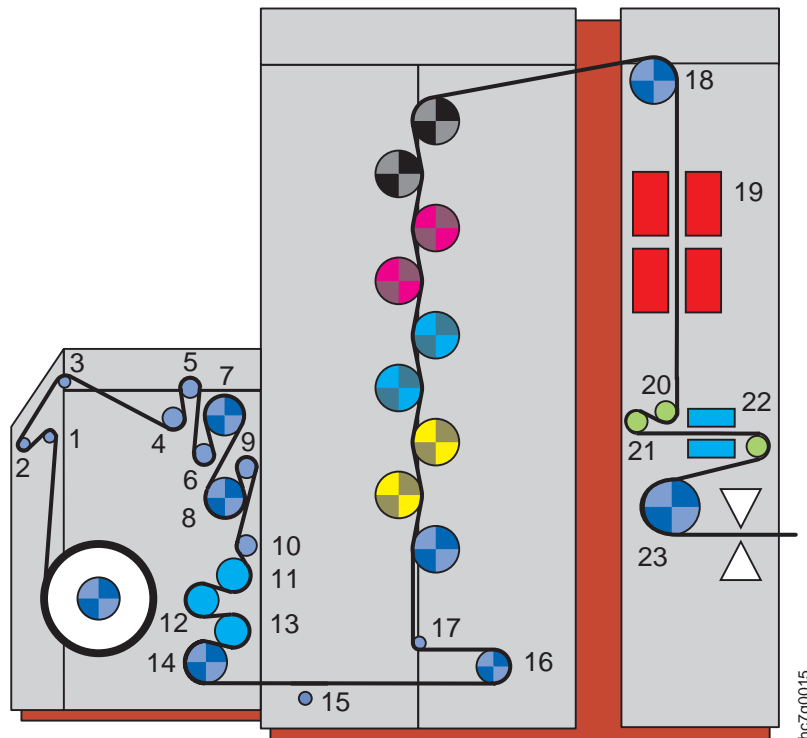

Figure 322. Print Tower Paper Path
- Pull the paper through the base of the X tower to the Y tower. Ensure that the paper is placed above roller 15, as shown in Figure 322.